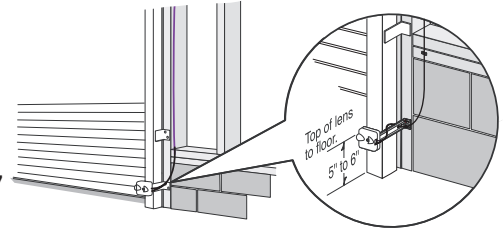

Figure 7
- Determine location for mounting. They do not need to be directly adjacent to the door but must be somewhere along the wall where there will be an unobstructed line between them. **Fig 7.**